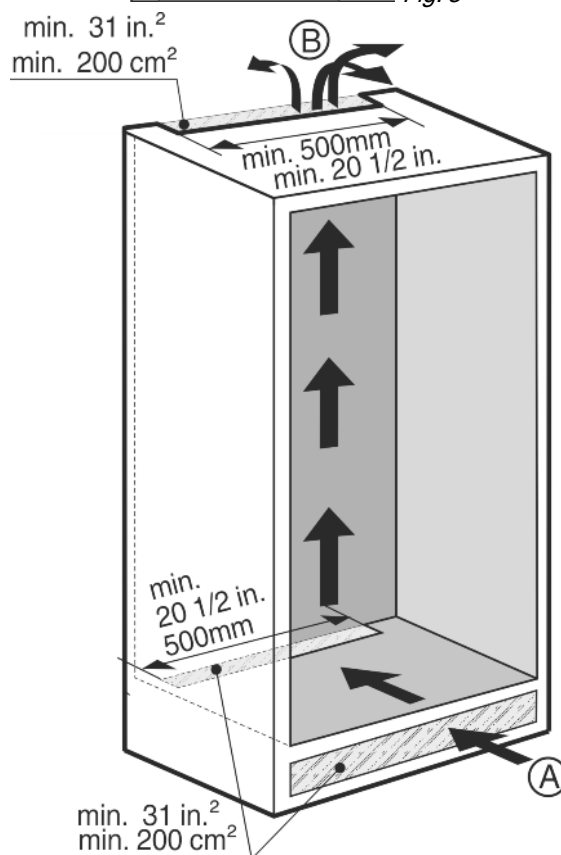

Fig. 6
- There must be an effective ventilation gap of at least 31 in2 (200 cm2) per appliance for the air inlet *Fig. 6 (A)* and the air outlet *Fig. 6 (B)*.